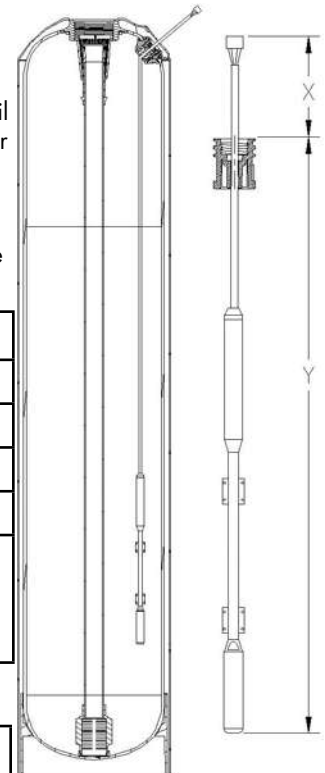

Figure 2. HE Softener tank.
3. Install the outlet manifold into the tank (Figure 2).
1. Measure the sensor cable length: refer to Figure 2 and Table 1 (the Aqua-Sensor cord is set at the factory for a 9" tank).